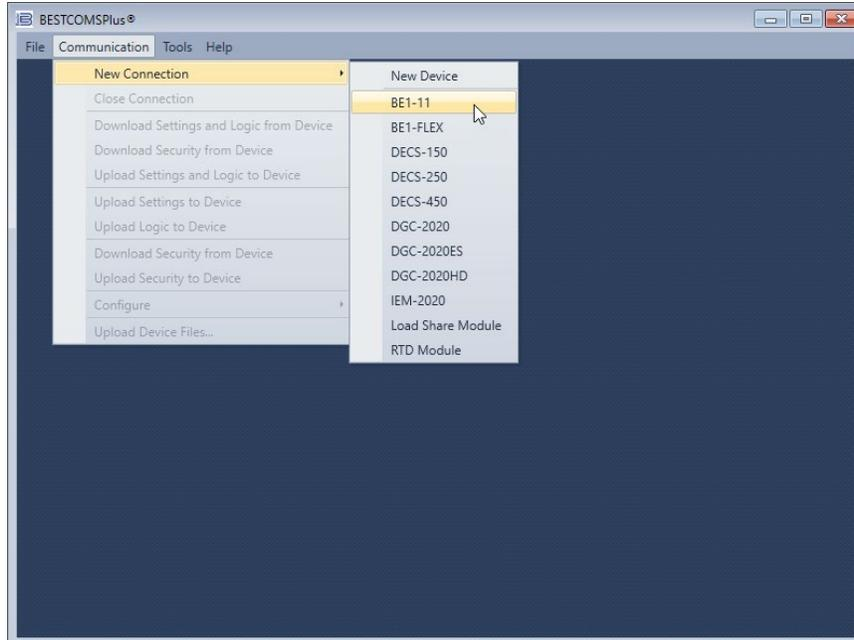

Figure 5. Communication Pull-Down Menu
The BESTCOMSP^{Plus} platform window opens. Select New Connection from the Communication pull-down menu and select BE1-11. See Figure 5. The BE1-11 plugin is activated automatically after connecting to a BE1-11.
- Step 1: Start *BESTCOMSPPlus* and select New Connection, BE1-11 from the Communication pull-down menu to connect to the BE1-11. See Figure 5.